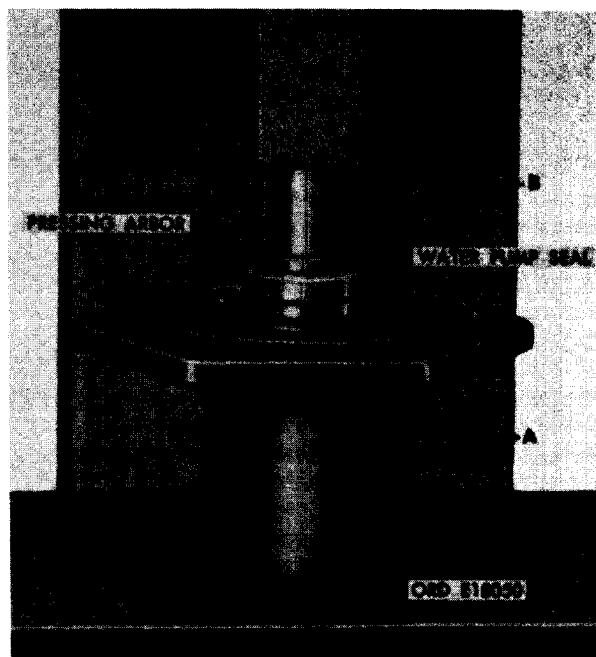

FIGURE 128. INSTALLING WATER PUMP SEAL IN WATER PUMP HOUSING.
- (3) Figure 128. (A) Mount water pump housing on a press plate as shown. (B) Install water pump seal in water pump housing using a suitable pressing arbor, until flange of seal properly seats against housing. The carbon face of seal must be toward impeller side of housing.